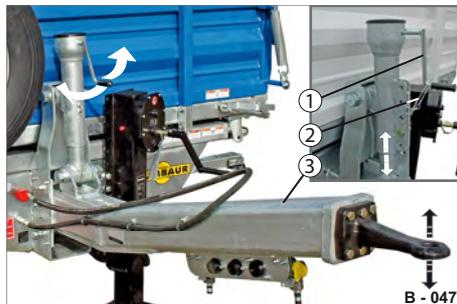

Fig. 52 Height adjustment of the draw pipe
- ▶ Unclamp the securing cable (Fig. 52/2).
- ▶ Rotate the crank (Fig. 52/1) to the left or right and adjust the height of the draw pipe (Fig. 52/3) of the pin coupling (Fig. 54/2) to the towing vehicle.